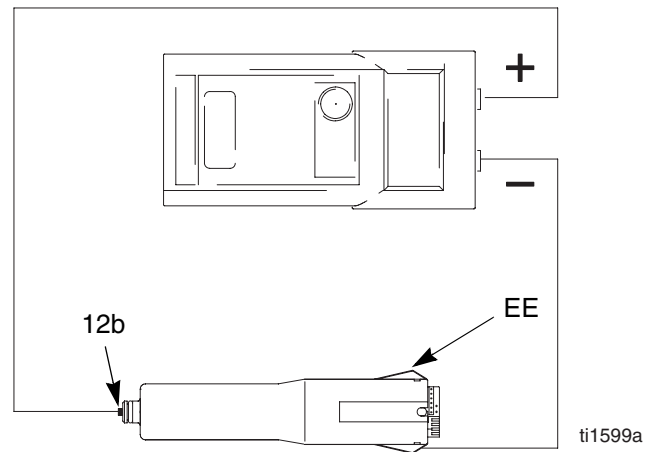

Fig. 16. Test Power Supply Resistance
1. Remove the power supply (12), page 42.
2. Remove the turbine alternator (13) from the power supply, page 43.
3. Measure resistance from the power supply's ground strips (EE) to the spring (12b). See FIGURE 16.